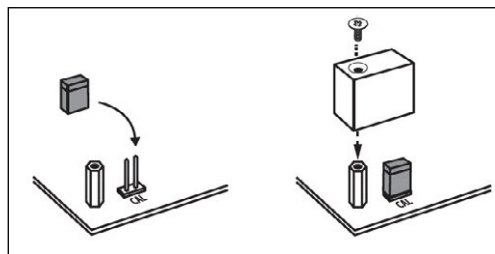

Figure 4-1. Closing the CAL Jumper
1. Short the CAL jumper to restrict access to setup mode. (Figure 4-1 on page 39)
**NOTE:** CAL jumper must be in place to prevent access to Setup mode at startup (Figure 4-1 on page 39).